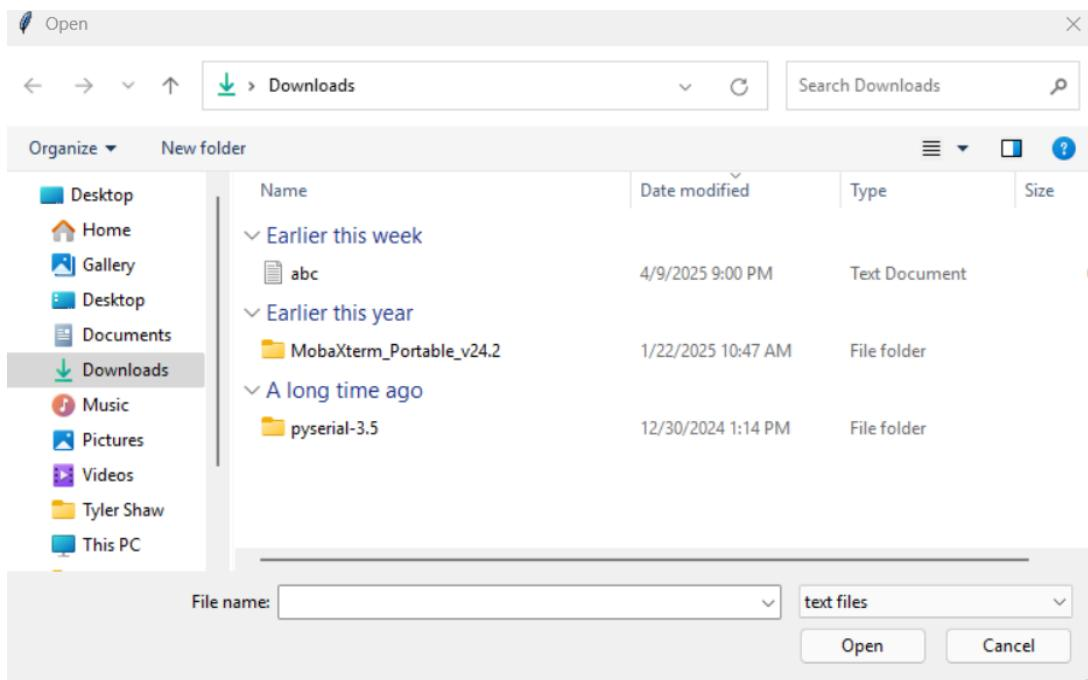

Figure 3.25 - Open File Windows File Explorer Interface (TS)
2: The following Windows File Explorer interface screen also shown in figure 3.25 will be displayed. This interface window works similarly to Windows File Explorer. Note that only .txt files will be displayed. Additionally, only .txt files generated by this program or in an identical format to those generated by this program will be properly displayed. Navigate to the location where your data is saved. Double click on the .txt file you wish to view or single click and then click “Open.” Click “Cancel” to not read a file (TS).